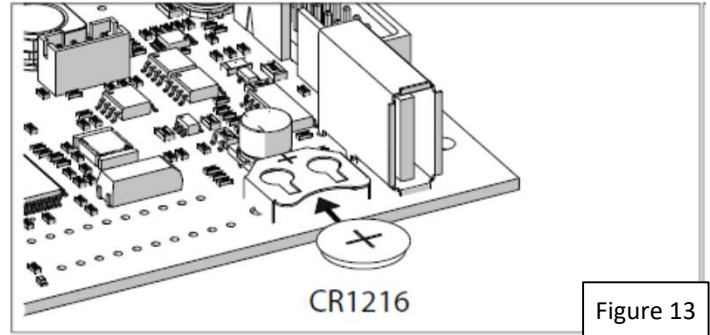

Figure 13
2. Install or replace the CR1216 battery on the Logic board, as shown in Figure 13.